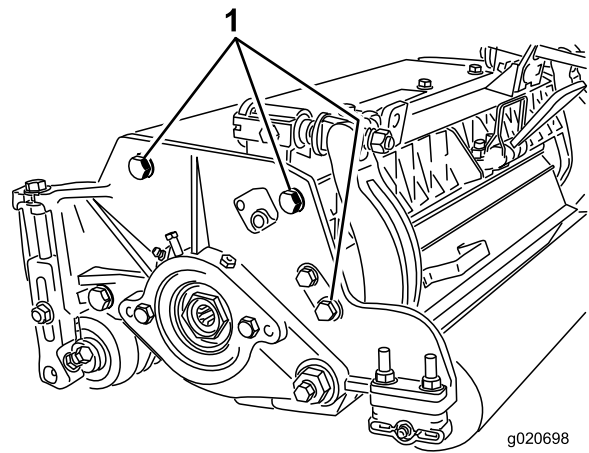

Figure 14
3. Remove (2) nuts securing each roller bracket and spacer to each side plate mounting flange.
**Note:** The position of the rear roller to the reel is controlled by the machining tolerances of the assembled components and paralleling is not required. A limited amount of adjustment is possible by setting the cutting unit on a surface plate and loosening the side plate mounting cap screws (Figure 14). Adjust and retighten cap screws. Torque the cap screws to 37-45 N-m (27-33 ft-lb).